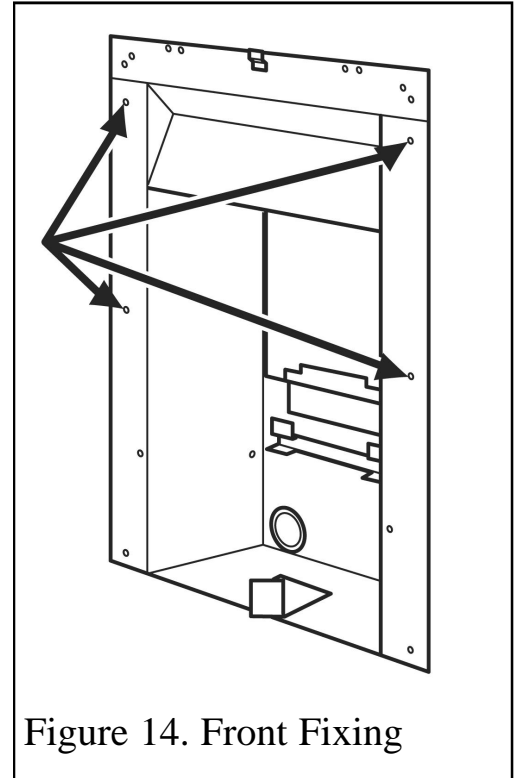

Figure 14. Front Fixing
3. Mark the fireplace front surround through the four fixing holes in the side flanges of the hotbox (See figure 14).